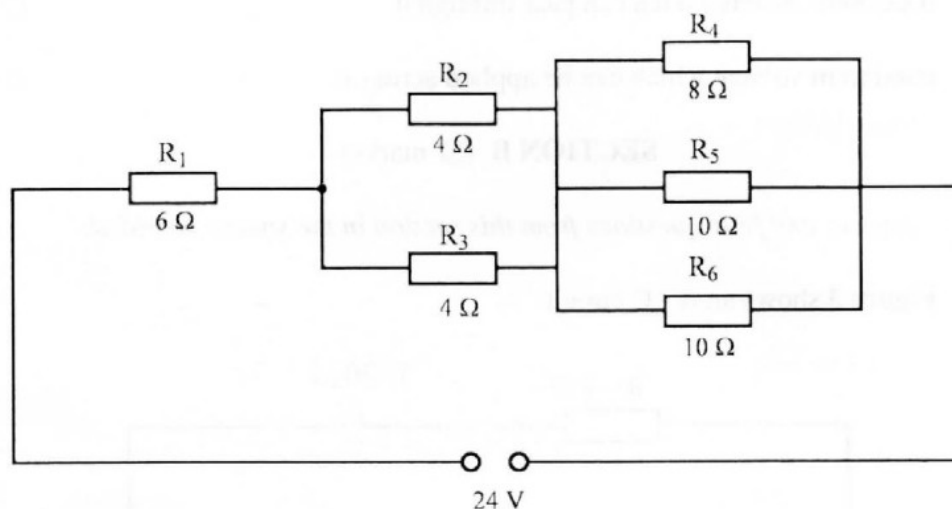

Fig. 2
- 7 **Figure 2** shows a resistive circuit.